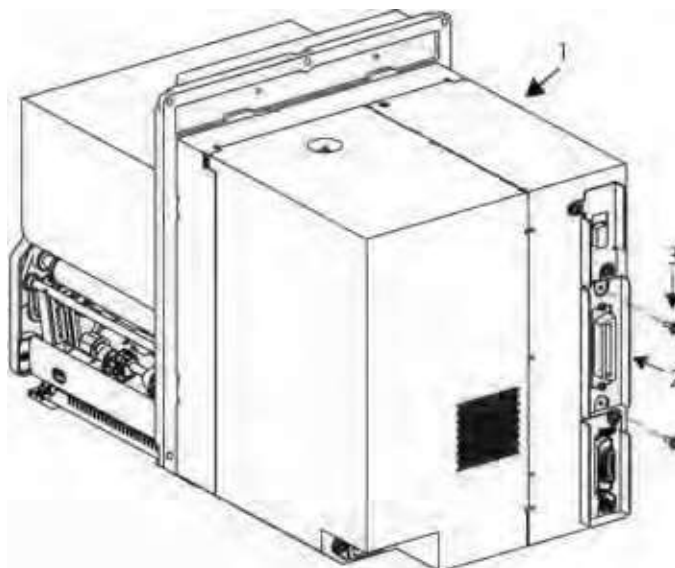

Figure 3-17, Interface Installation
1. Switch off the printer (1, Figure 3-17) and follow applicable lockout-tagout procedures.
2. Remove interface slot covering (not shown) from printer (1) as applicable.
3. Insert chosen interface board (2) into its assigned slot and secure using two screws (3).